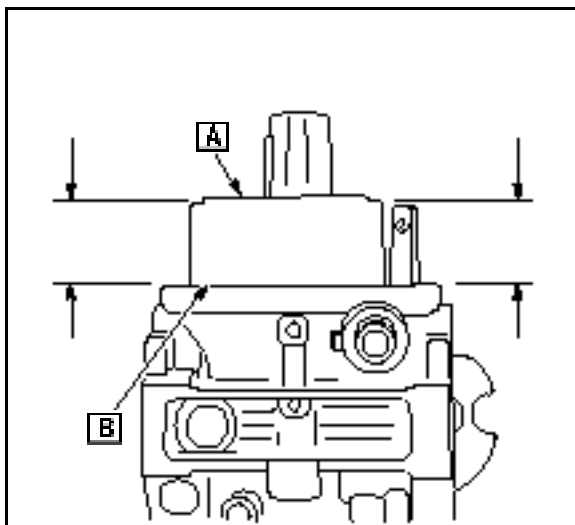

Fig. 91
18. Turn the carburetor body upside down. The float (A) should be parallel to the float bowl mounting surface ([B] Fig. 91).